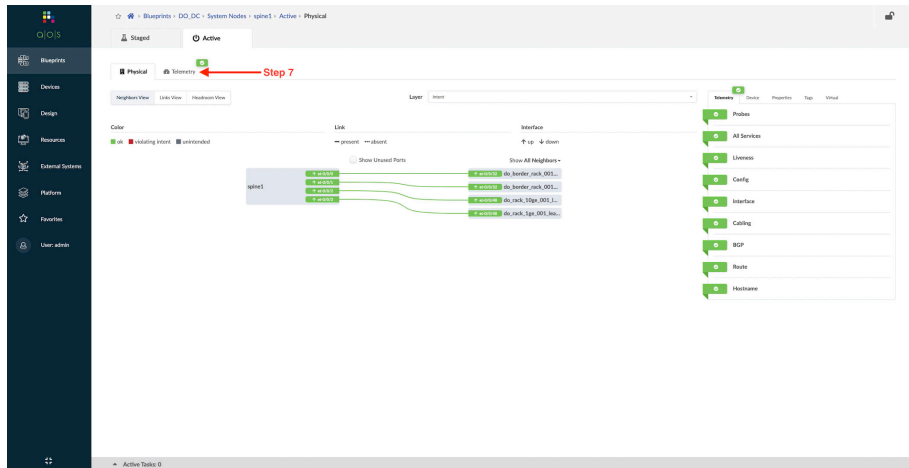

Figure 7.29 Verifying a Configlet Has Been Applied
Step 7: Click Telemetry. See Figure 7.29.